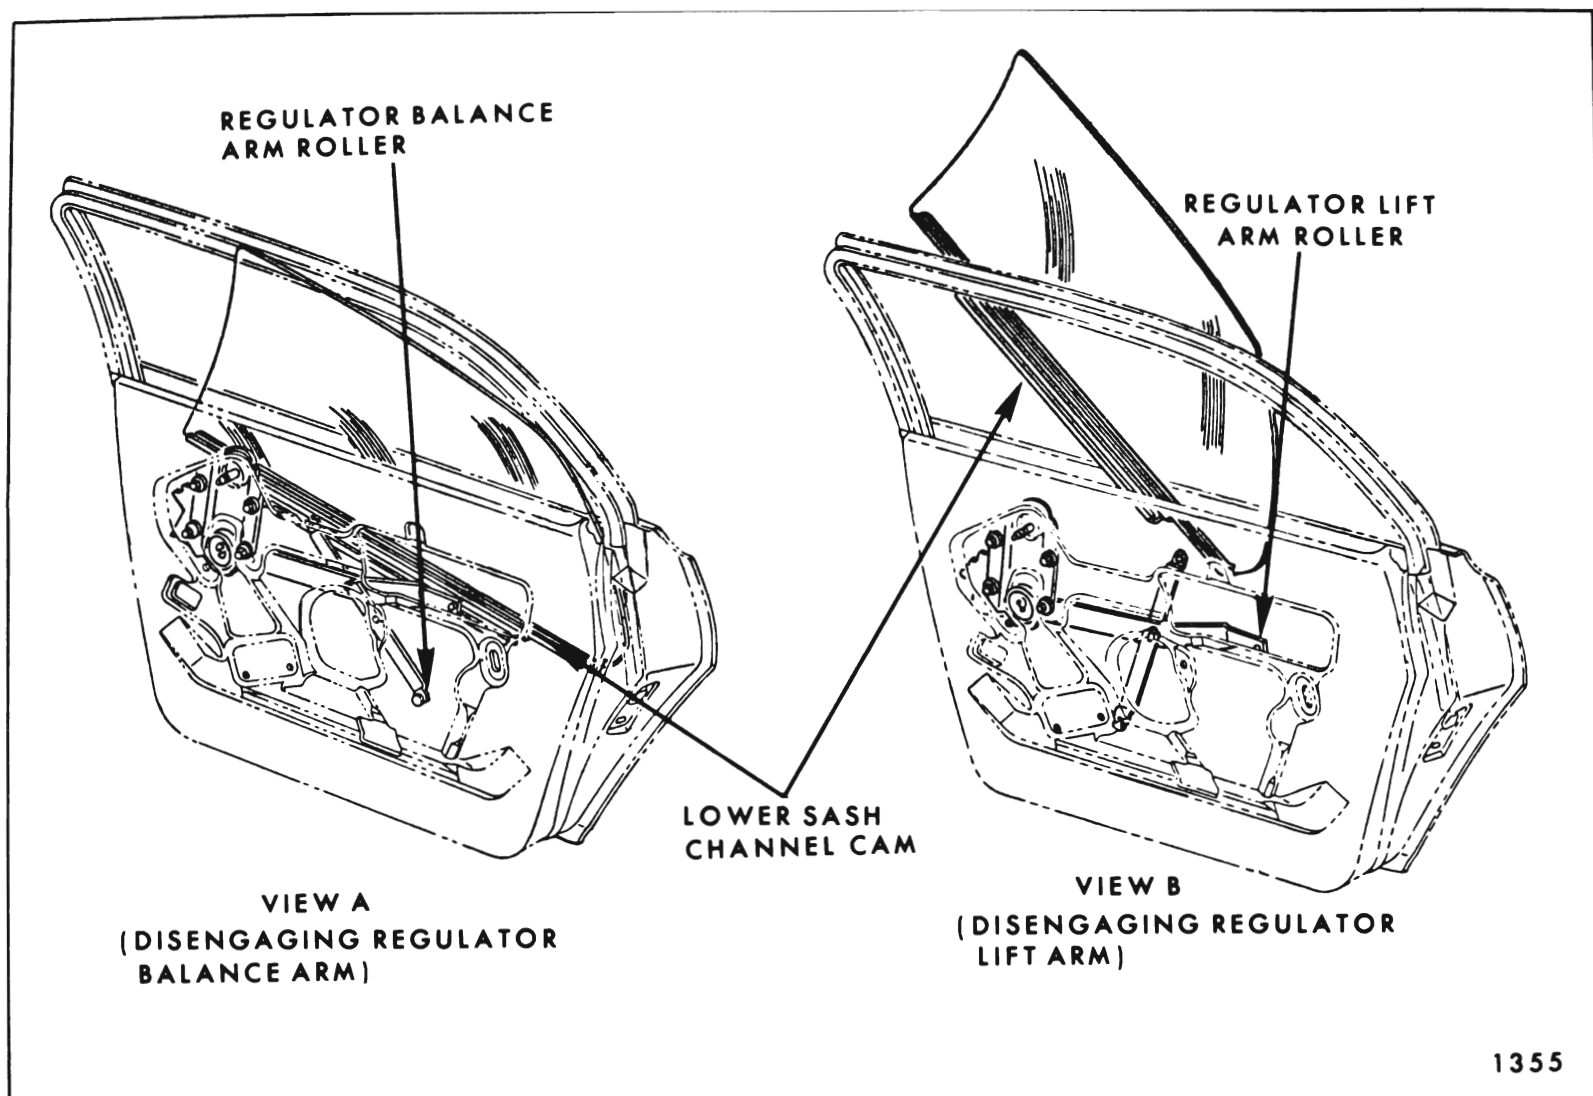

Fig. 7-133—Rear Door Window Removal - "A" Closed Styles
- Rotate glass upward and forward to disengage lower sash channel cam from regulator lift arm roller and remove door window outboard of door upper frame (See Fig. 7-133 View A and B).